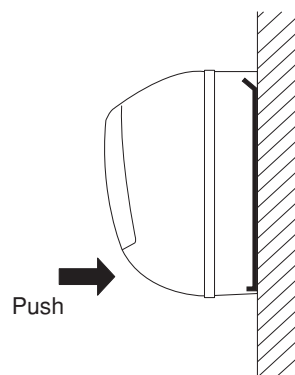

Fig. 33
- (1) To install the indoor unit, mount the indoor unit onto the 2 tabs on the upper part of the rear plate.
- (2) Hold down the air discharge outlet and press the lower part of the indoor unit until it clicks to securely fasten to the 2 tabs on the lower part of the rear plate. (Fig. 33)